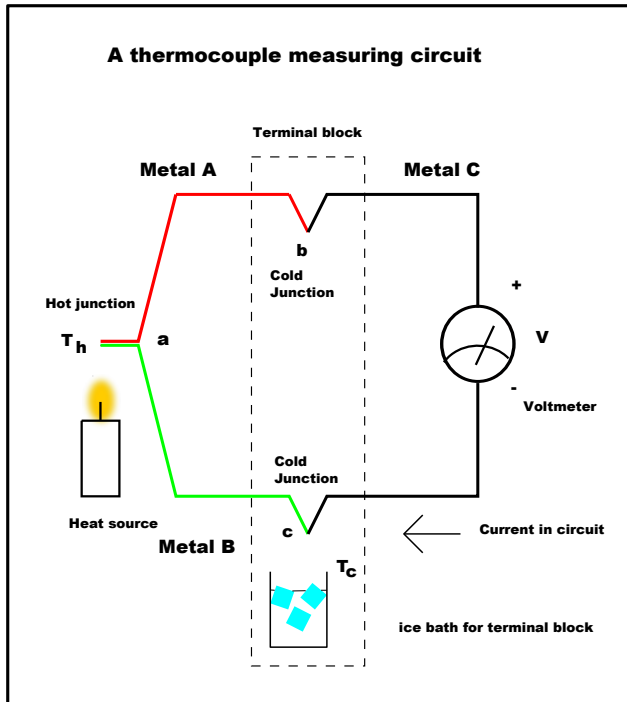

Figure 2: Thermocouples (“Thermocouple circuit” by Wtshymanski \(talk\) is licensed under CC BY-SA 3.0.)
- **Working Principle:** Thermocouples consist of two dissimilar electrical conductors joined at one end. The voltage generated at this junction (the measuring point) is measured and correlated to the temperature being monitored (Fig. 2).